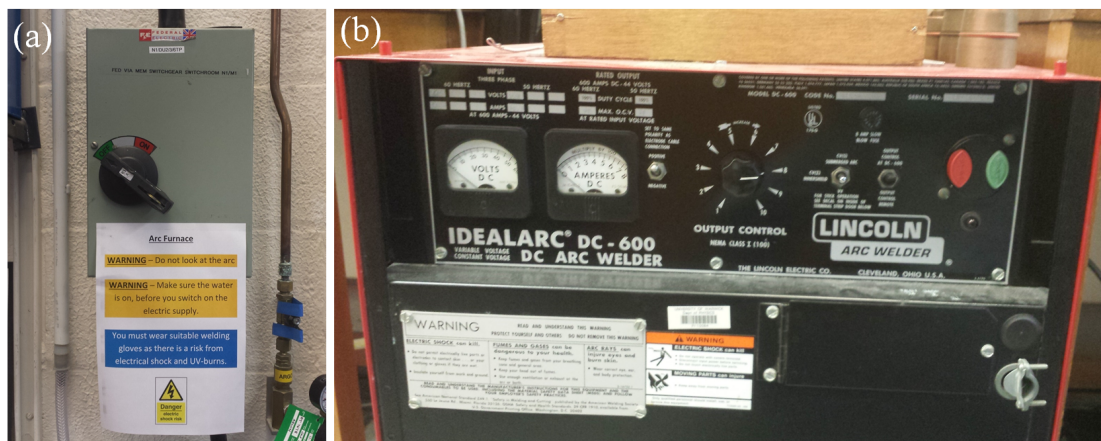

Figure 6: (a) Power source for the welding unit and (b) control panel for the welding unit.
Step 8: Everything is now ready to begin melting the sample. First of all turn the power on at the wall (Fig. 6(a)). Check the control output is set to 0 and then press the green button to turn on the welding power source when you are ready to begin (Fig. 6(b)).
Step 9: To strike an arc turn the output control to 6/7 (Fig. 6(b)). Push the electrode against the copper crucible and pull away slowly to ensure you do not lose the arc. Move the arc over the titanium ball and melt the titanium first. This is to ensure there is no oxygen in the chamber. Once the arc “jumps” onto the titanium ball, turn the output control down. This ensures the arc does not vaporise the titanium.